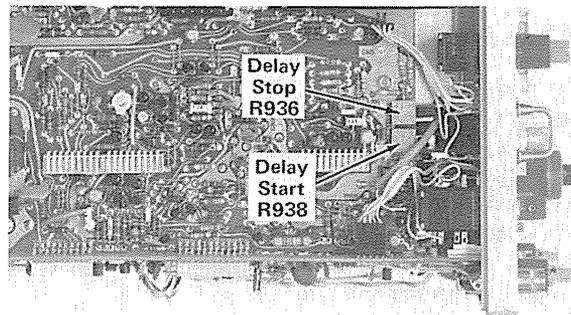

Fig. 5-23. Location of Delay Start and Delay Stop adjustments.
c. ADJUST—Delay Start adjustment, R938 (see Fig. 5-23), so the left side of the intensified zone starts on the leading edge of the second time marker.
f. ADJUST—Delay Stop adjustment, R936 (see Fig. 5-23), so the left side of the intensified zone starts on the leading edge of the tenth time marker.